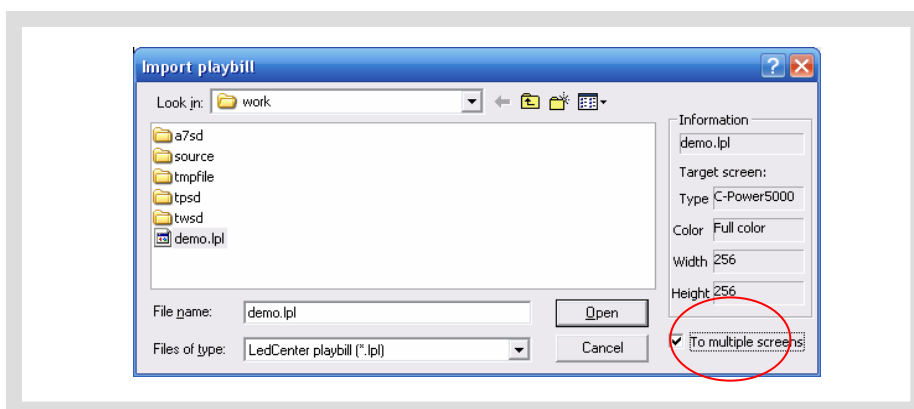
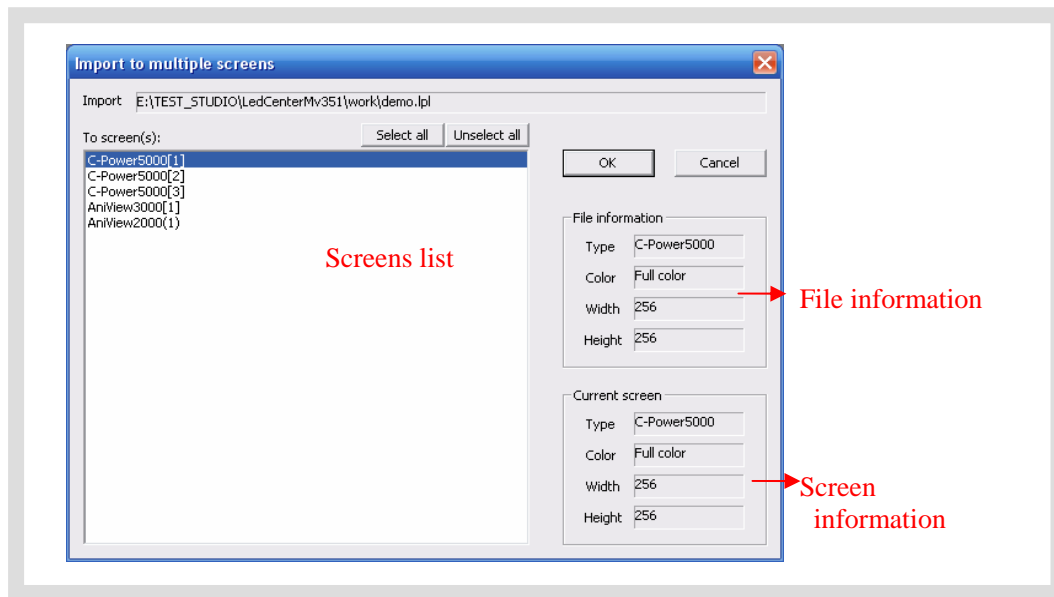

Figure33 Import playbill
Figure34 Import to multiple screens
- 2) In the dialog box “Import playbill” (as shown in Figure33), select the program file (*.lpl) to be imported. The “Information” at right side of the dialog box shows the screen parameters of the program file. Confirm the imported program consistent with the parameters of current screen.
- 3) Import to multiple screens: if select the option “To multiple screens” as shown in Figure33, a dialog box “Import to multiple screens” as shown in Figure34 pops up after a file is selected. Hold Ctrl key and click the screen list, user can select multiple screens, and then import the program file to multiple screens which is consistent with the file information.